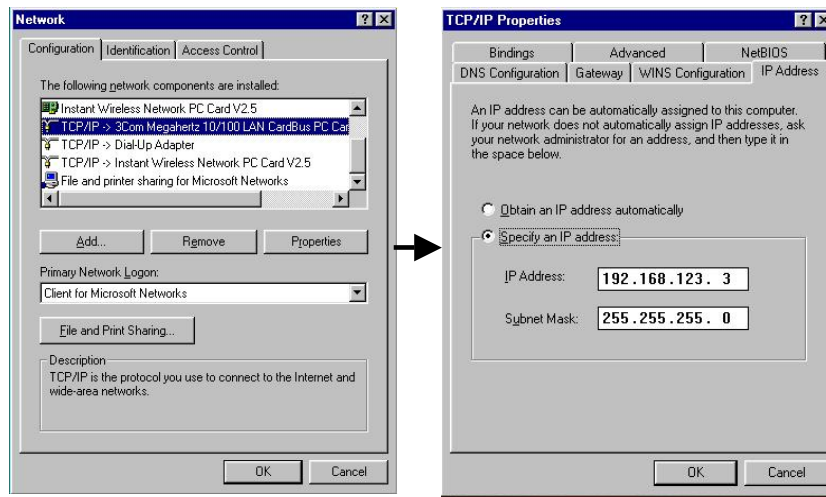

Figure 6
- c) Select the IP Address tab in the TCP/IP Properties Window (See Figure 6).
- d) Select the Specify an IP Address and fill in the IP Address and Subnet Mask Fields as shown in Figure 6. To use a DHCP connection, select Obtain IP Address automatically.